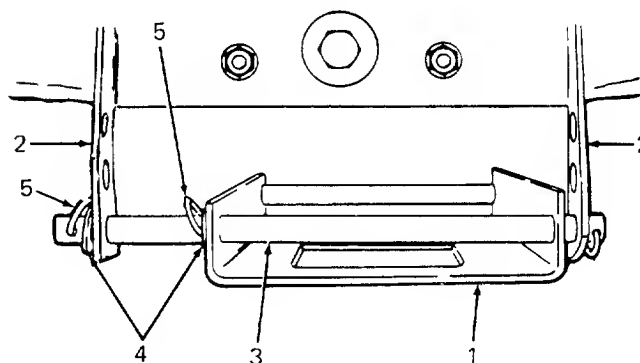

Figure 47
5. With the left front wheel turned to the left, attach the front hanger assembly to the front hanger bracket by passing the tractor hanger rod through the bottom mounting holes of the front hanger bracket. Remember to attach the center flat washer to the rod after it passes through the right side of the front hanger assembly. Refer to Figure 47. Secure the tractor hanger rod with flat washer and hairpin cottes.